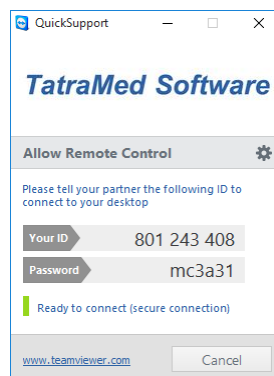

Figure 497 – TeamViewer QuickSupport with your ID and password
2. Be prepared to provide your ID and password, which are displayed in the TeamViewer QuickSupport application (see Figure 497), and call the TatraMed Software customer support center (see 29 Contact).